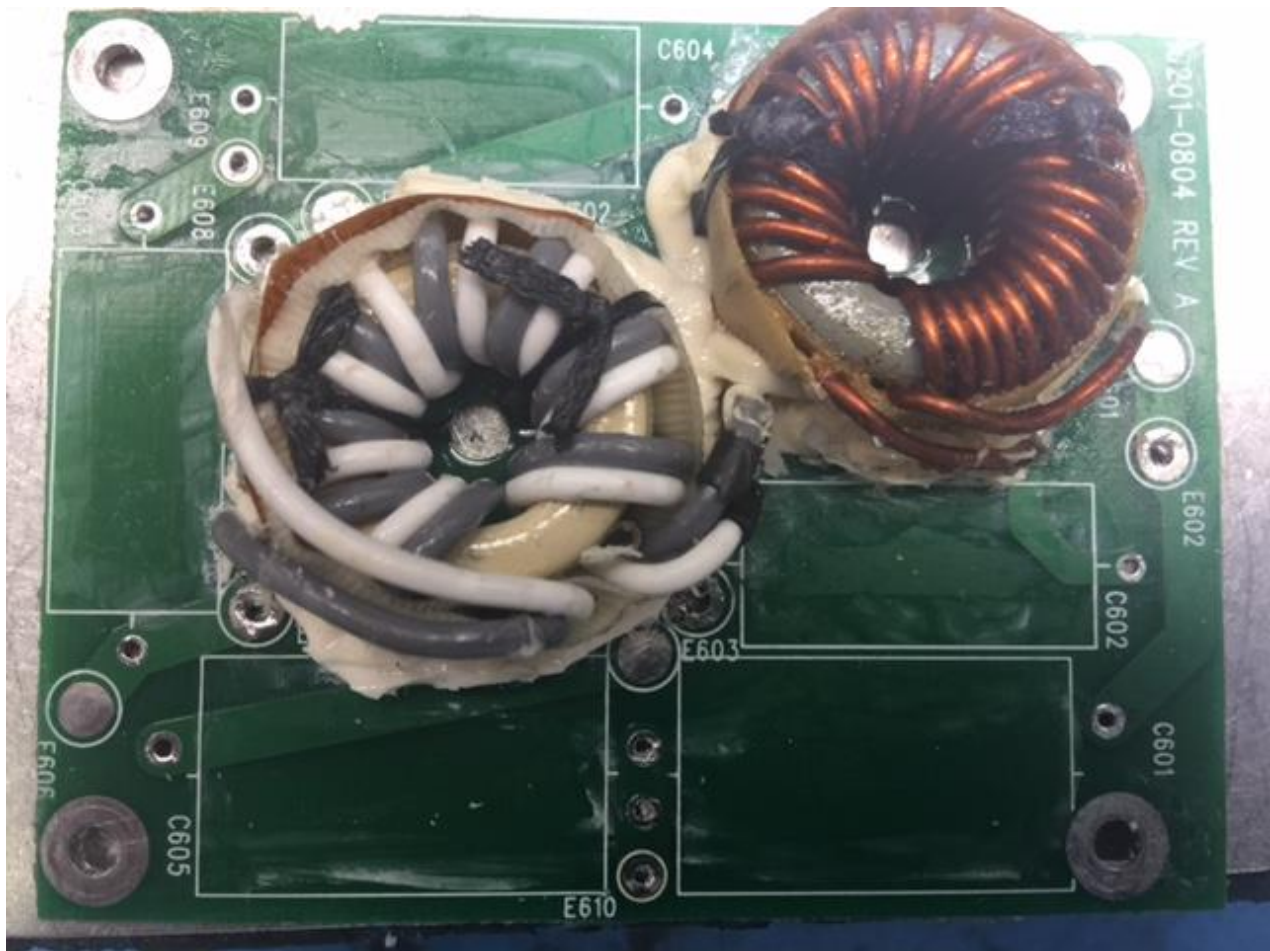

Figure 15
11. Apply thinner (1-001-2302-0019, T521-5L) over the old RTV and peel it off after 5 mins of dwell time. (Figure 15).